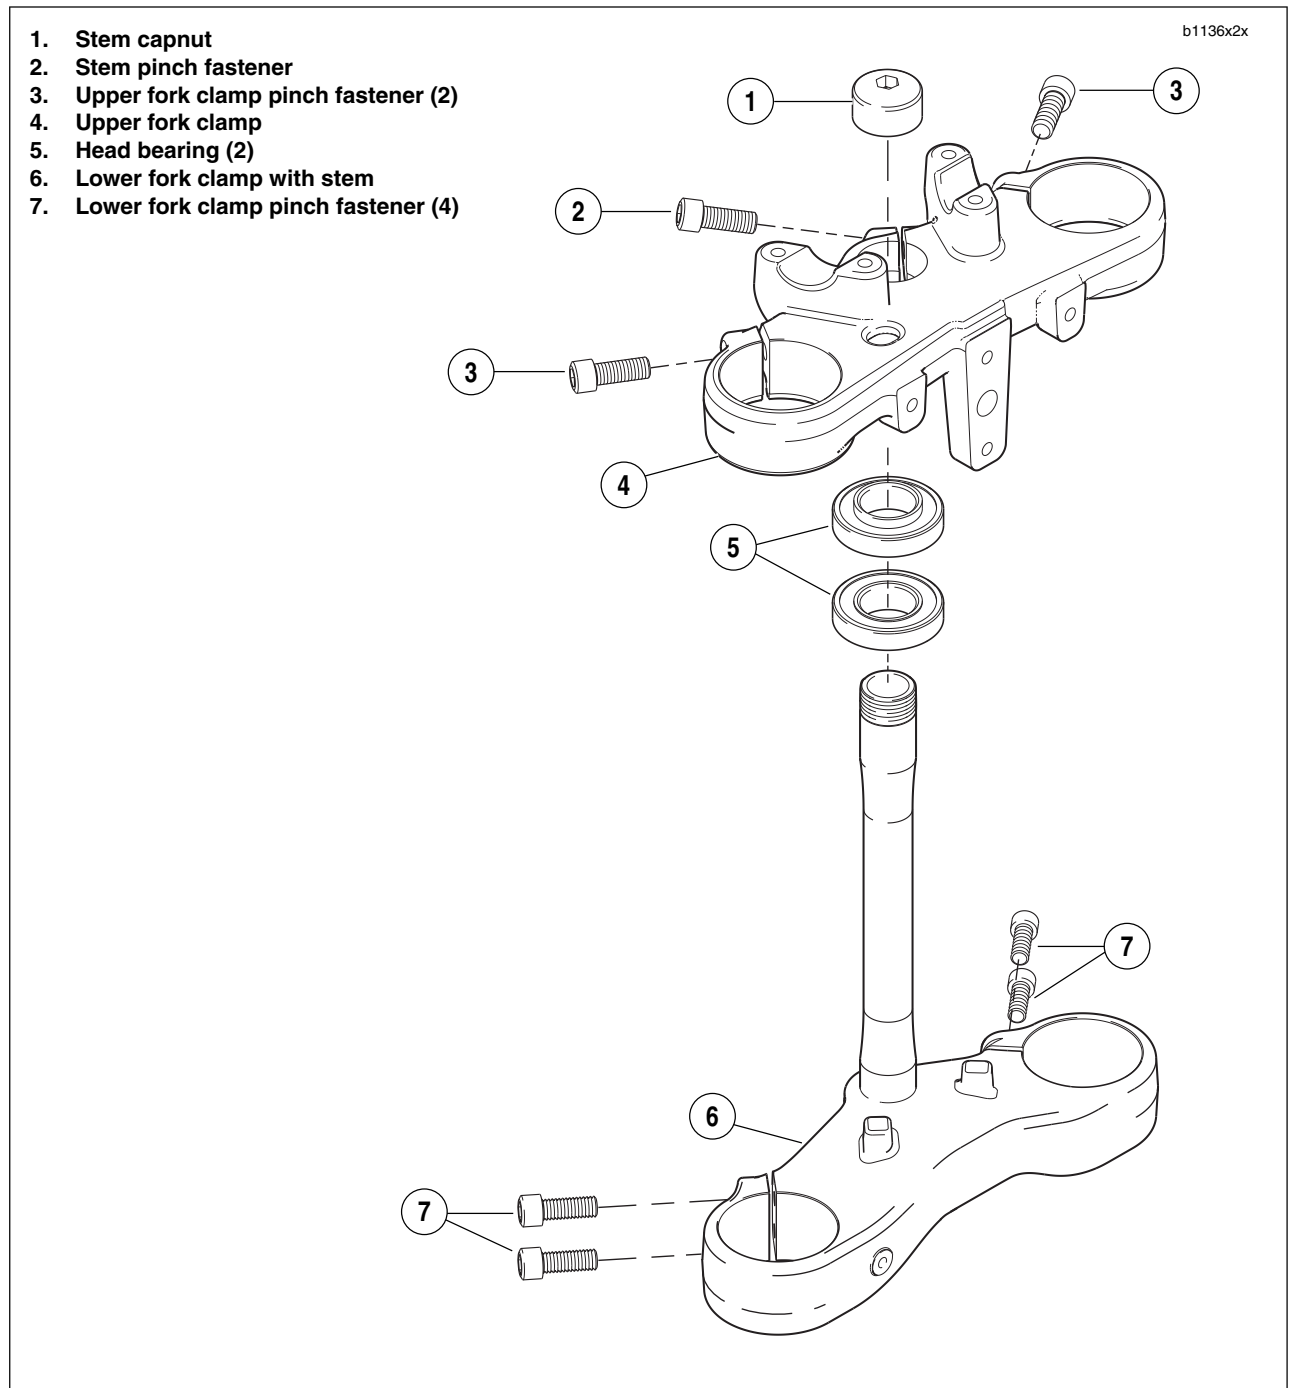
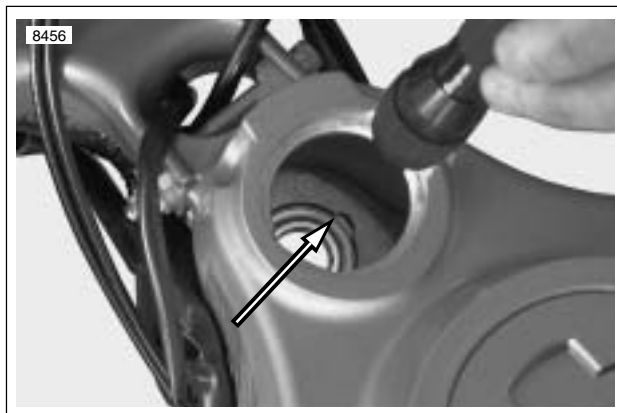

Figure 2-75. Steering Stem Assembly
Figure 2-76. Lower Steering Head Bearing Notches (upper bearing removed for clarity)
5. See Figure 2-75. Remove steering stem pinch fastener (2).
6. See Figure 2-75. Hold or brace the lower fork clamp and remove steering stem capnut (1).
7. Remove the upper fork clamp (4).
8. Remove the lower fork clamp (6).
1. See Figure 2-75. Install the lower fork clamp (6) into the steering stem bore and install the upper fork clamp (4).
2. Install steering stem capnut (1). Tighten but do not torque.
- a. See Figure 2-75. Loosen steering stem pinch fastener (2) and upper and lower fork clamp pinch fasteners (3, 7).
- b. Brace wheel while removing steering stem capnut fastener (1).
- c. Remove upper fork clamp (4) and front-end assembly which includes front wheel, steering stem/lower fork clamp.
5. Remove upper and lower steering head bearings (5).
- a. See Figure 2-76. Locate notches inside steering head stem bore (upper bearing removed for clarity).